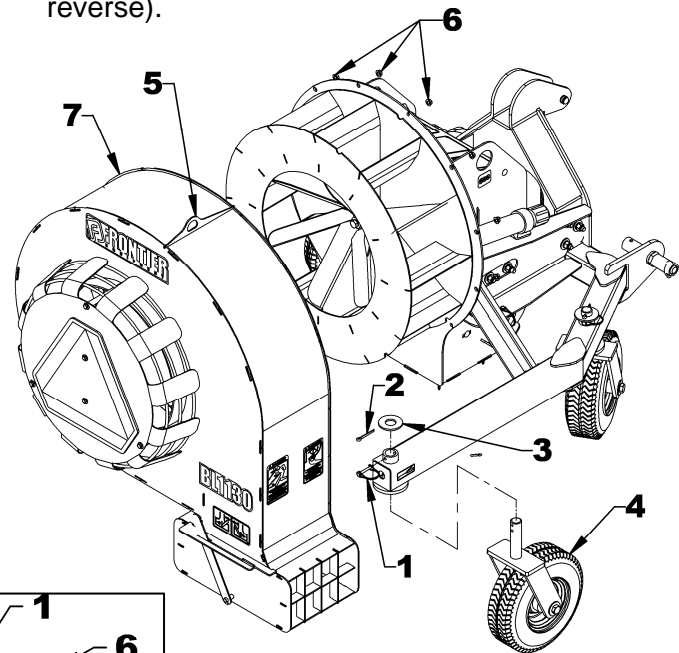

Figure 11a
Impeller Removing and Reinstallation (figures 11a-11b)
1. **Figure 11a:** If the debris blower is in storage, remove the round wire lockpin (item 1). Then remove the 1/4" cotter pin (item 2), the flat washer (item 3) and the wheel assembly (item 4). Place the arm on a small wood block as a temporary support.
2. **Figure 11a:** Attach the housing (item 7) to a hoist with the hook provided on the housing (item 5). Remove the twelve 3/8" NC serrated flange nuts (item 6) and move the housing to the front to take it out from the impeller.
5. **Figure 11a:** Reinstall the front housing and the wheels (follow the preceding procedure in reverse).